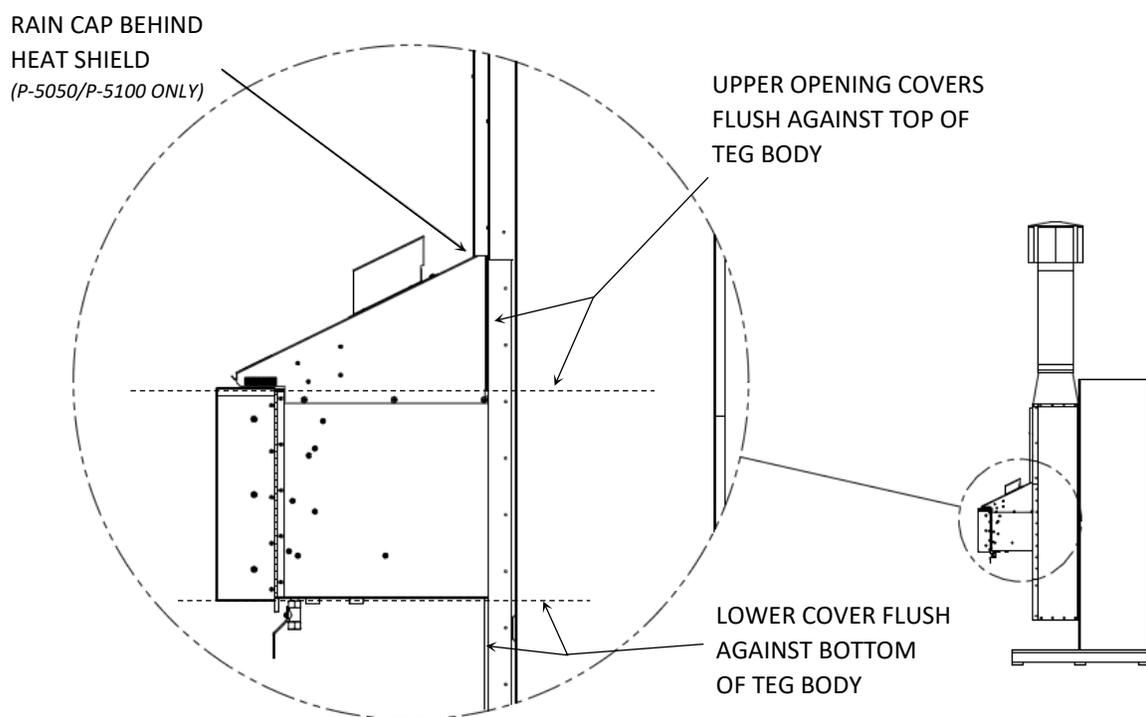

Figure 3 – Frontside Installation Details
1. If it was removed in prior steps or came uninstalled, locate the Heat Shield Cover (Item H18, Figure 6) with the labels and logo. Install this on the front of the HRS Assembly using the supplied #8 X 3/8" Philips sheet metal screws. See Figure 3 below for reference throughout this section.